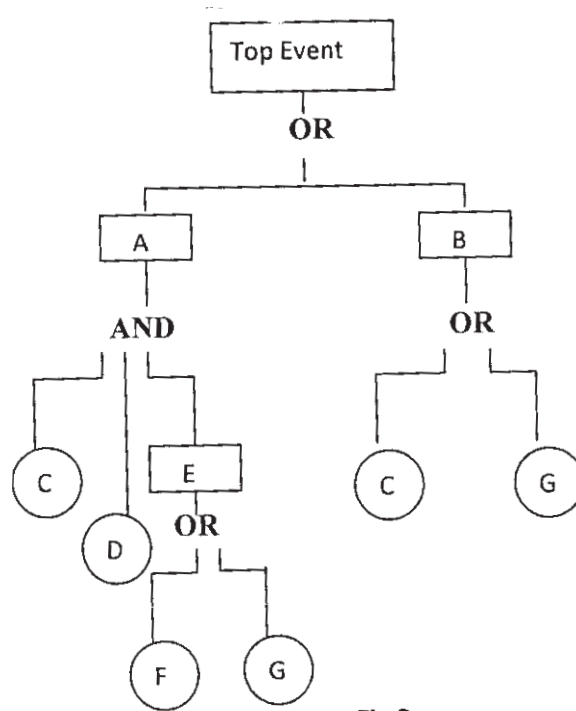

Fig.2
b) Construct a reliability block diagram Fig. 2 for given fault tree. [8]